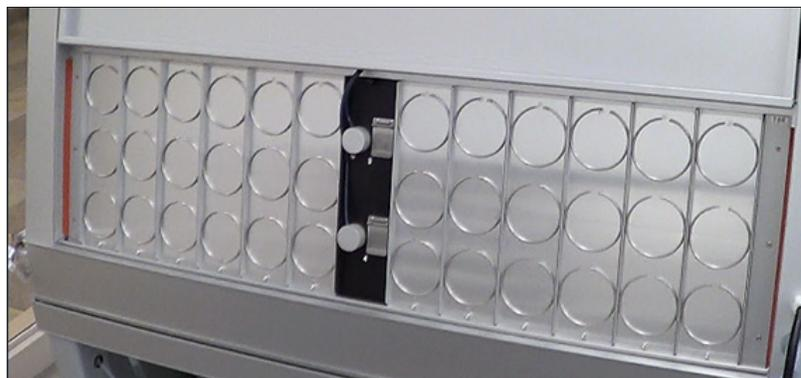

Figure 12.3r: Correct specimen configuration with no gaps between panel holders.
- Gaps larger than 1 mm (1/32") are not acceptable (see Figure 12.3r).